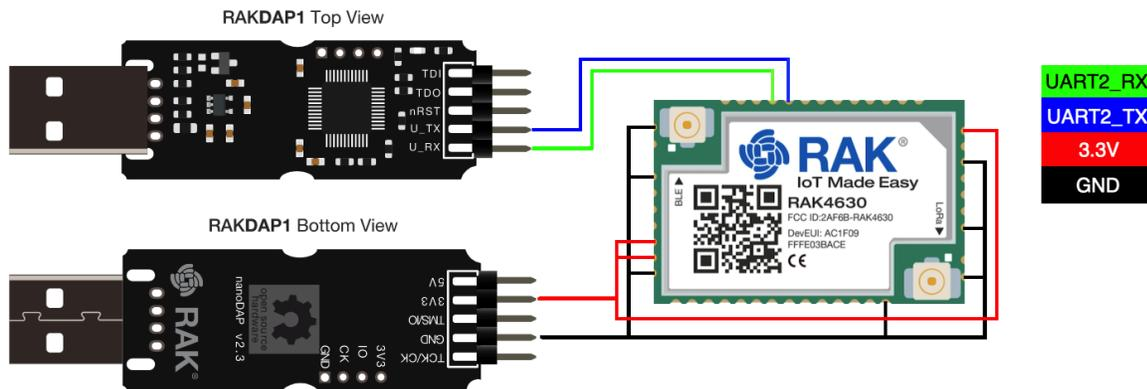

Figure 37: RAK4630 module connection
1. Connect the RAK4630 to the serial port of a general-purpose computer (USB port) using a USB to UART TTL adapter like RAKDAP1 , as shown in **Figure 37**.
1. To set up the RAK4630 module to join the TTN using OTAA, start by connecting the RAK4630 module to your computer (see Figure 37) and open the RAK Serial Port Tool. Select the right COM port and set the baud rate to 115200.